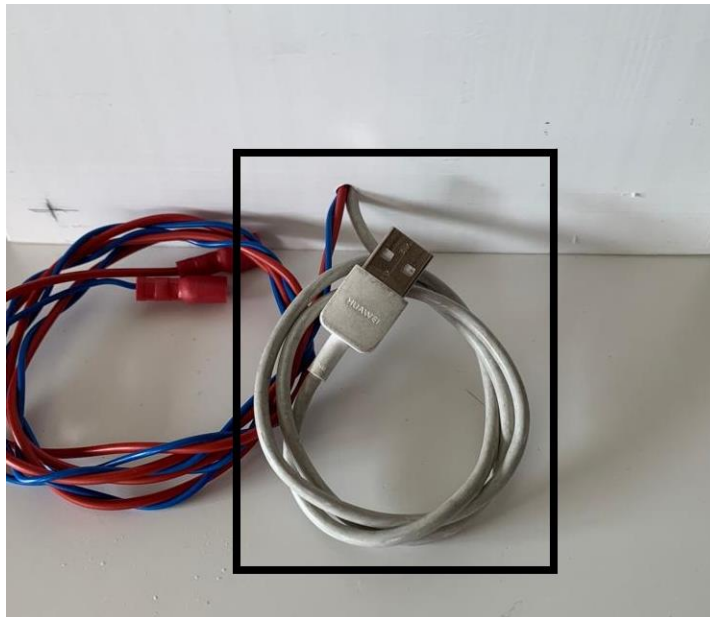

Figure 4 Feeder Device, Power cable
1. **Power cable**, cable responsible for powering the **Feeder Device**, should be connected to an adapter with an **output of 5V** and inserted into a power plug near the device, Fig.1 and Fig.4.